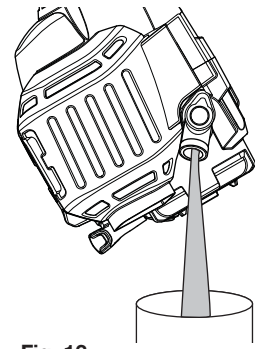

Fig. 13
3. Tip the unit vertically to pour the oil out of the oil fill hole and into a container (Fig. 13). Allow ample time for complete drainage.